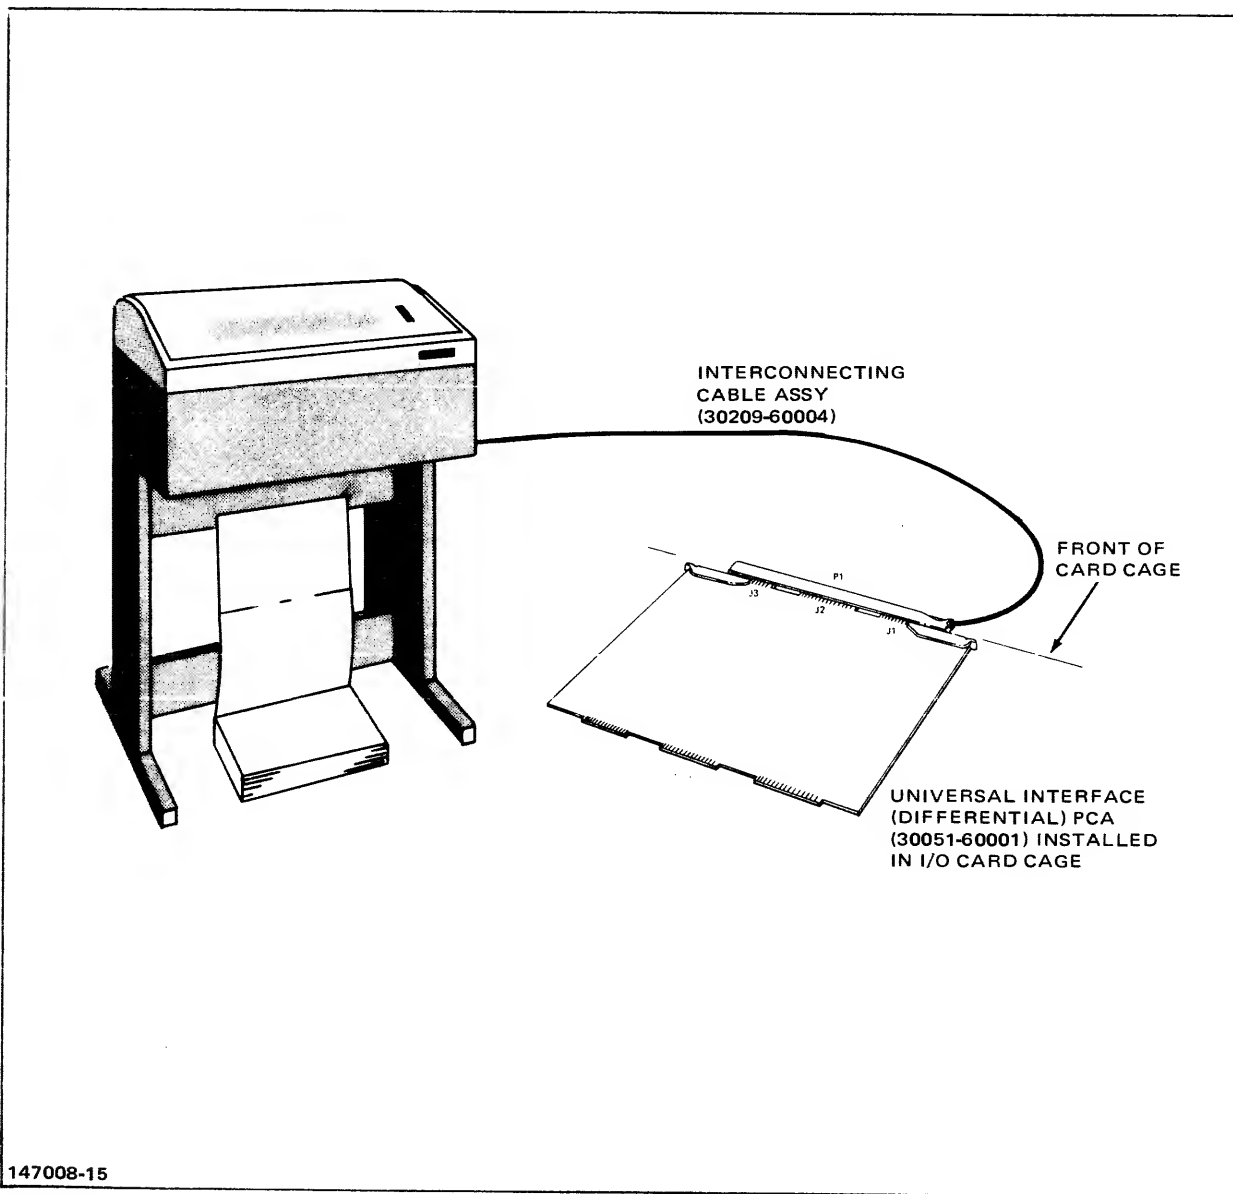

Figure 3-8. HP 2613A Line Printer
1. Connect the interconnecting cable assembly's P1 connector to the interface PCA as shown in figure 3-8.